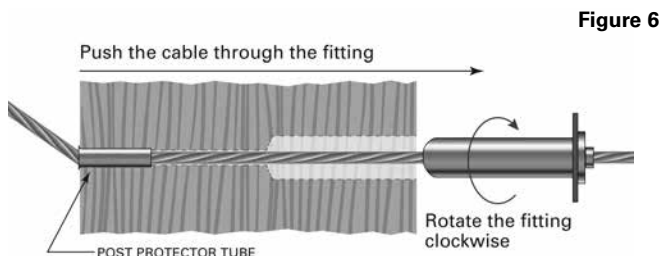

Figure 6
2. Rotate the Pull-Lock fitting clockwise as you push it onto the cable. If the cable begins to "unravel," you are rotating the fitting in the wrong direction. (Figure 6)